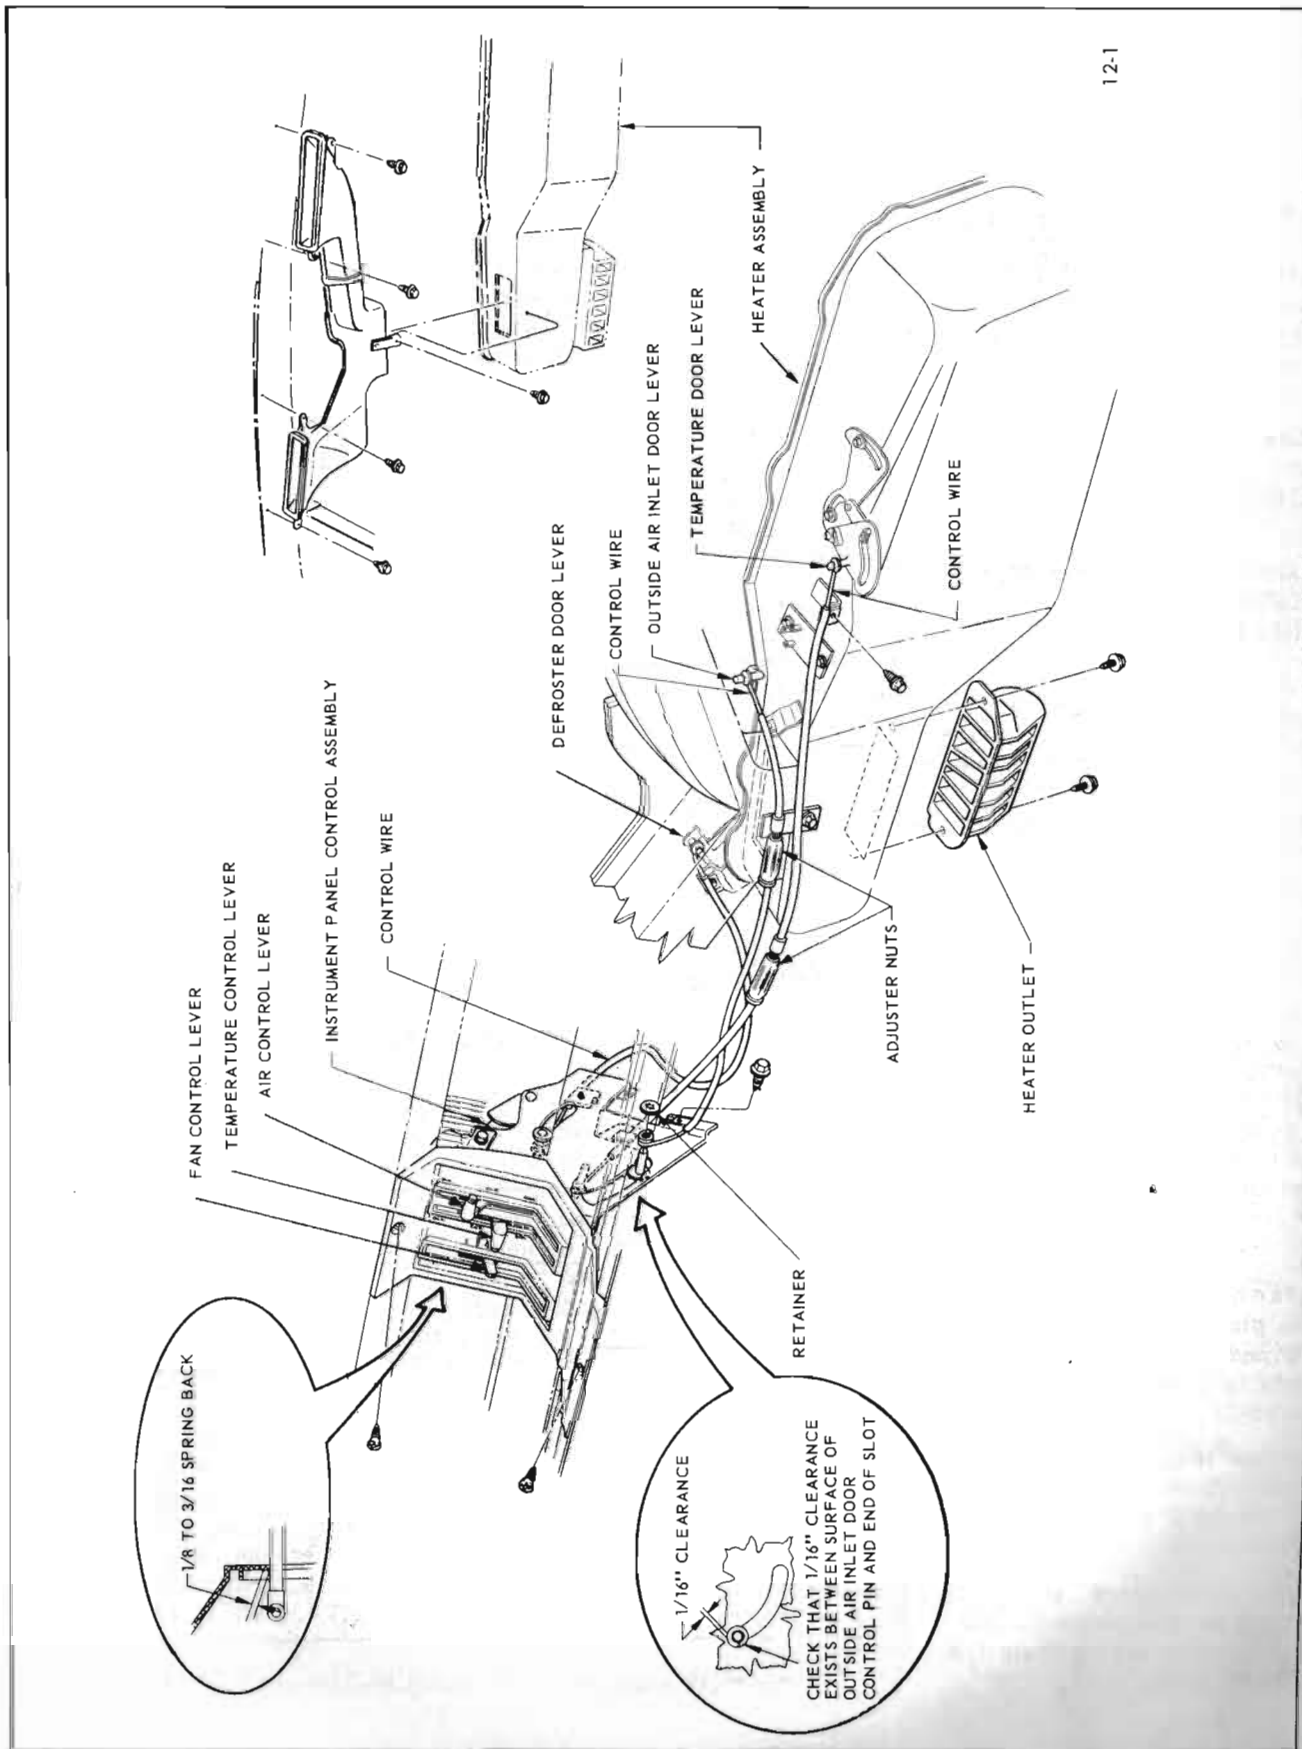

Figure 12-1—Heater Installation 43-44000 Series
wire to pin on heater control assembly. See Figure 12-1.
3. Insure that the air control lever is in the OFF position and rotate the control wire adjuster nut until approximately 1/8 to 3/16 inch springback is obtained when air control lever is in OFF position. See Figure 12-1.
NOTE: After adjustment is completed, check that 1/16 inch clearance exists between outside air inlet door control pin and end of slot (see Figure 12-1) when AIR control lever is in OFF position.
1. Attach temperature control wire to pin on heater control assembly and to lever of temperature door on heater assembly (see Figure 12-1).
3. Heater Control Assembly—The heater control assembly (see Figure 12-1) consists of three controls, namely the temperature control lever, air control lever, and fan switch lever. The temperature control lever is connected by a control wire to the
1. Remove two screws holding heater control assembly to instrument panel and partially withdraw heater control assembly. See Figure 12-1.
2. Disconnect control cables from levers of defroster door and outside air inlet door on heater assembly (see Figure 12-1).